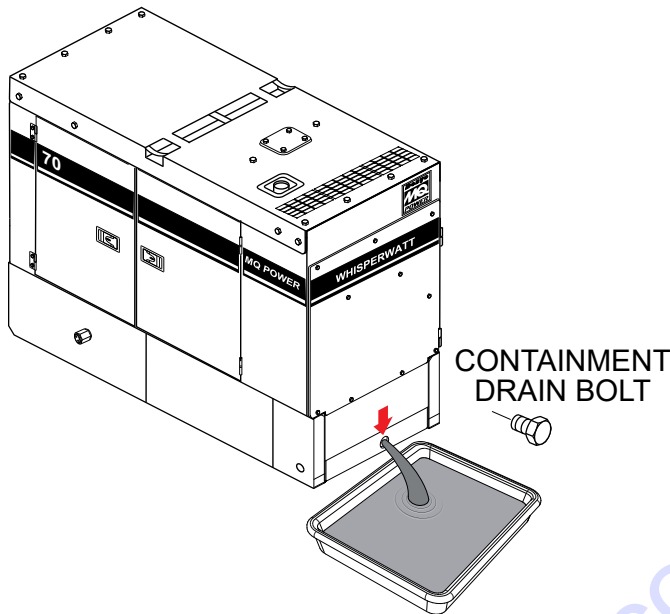

Figure 65. Draining Containment Tank
2. If the tank becomes full with fluids, remove the drain bolt (Figure 65), then allow the fluids to drain into a suitable container.